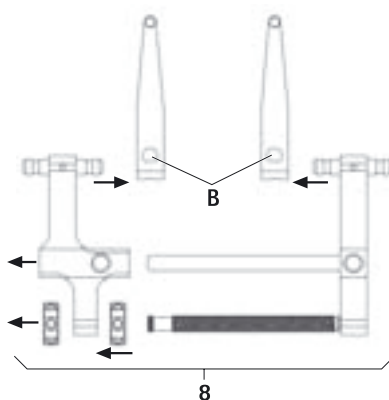

Fig. 4
- To dismount distractor **8** with the distraction arms, see Fig. 4: